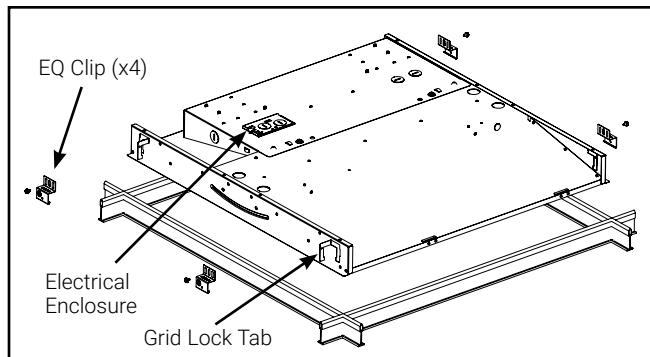

Figure 2. Install in Ceiling T-Grid System
2. Install the luminaire into the ceiling T-grid system. Ensure that the luminaire sits snugly in T-grid system (Figure 2).